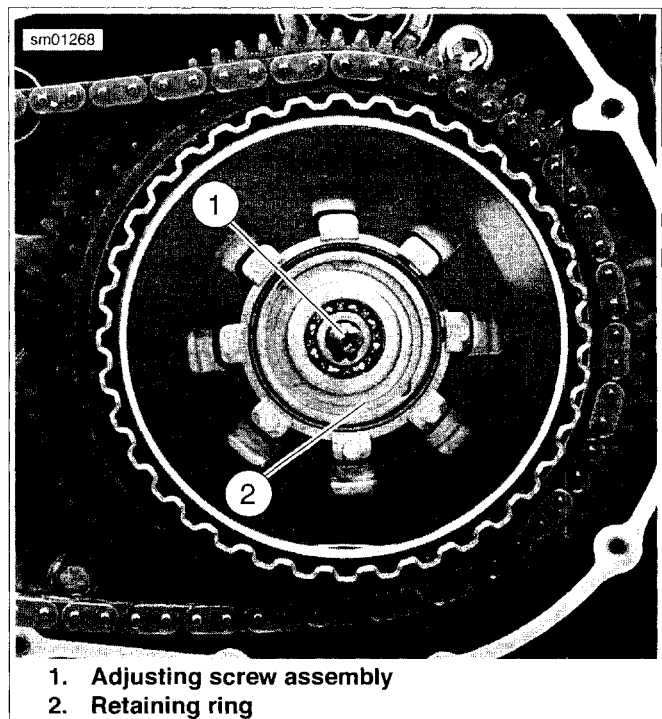

Figure 5-21. Clutch Adjusting Screw Assembly and Retaining Ring
- See Figure 5-21. Install adjusting screw assembly (1) in pressure plate, noting that two tabs on perimeter of release plate must be inserted into corresponding recesses in pressure plate. Secure assembly with a **new** retaining ring (2).